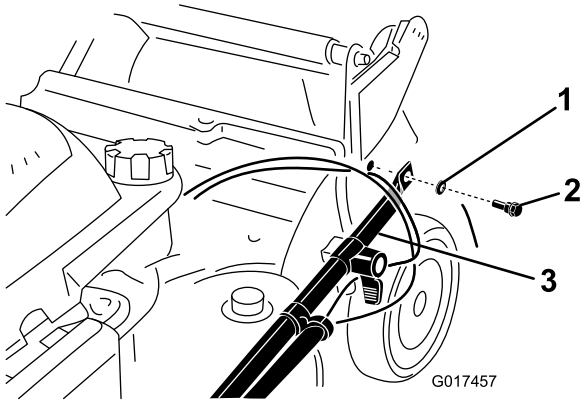

Figure 3
- Attach the handle ends to the machine housing with 2 washers and 2 handle bolts (Figure 3), **but do not tighten the handle bolts.**
Important: Route the cables to the *outside* of the handle (Figure 3).